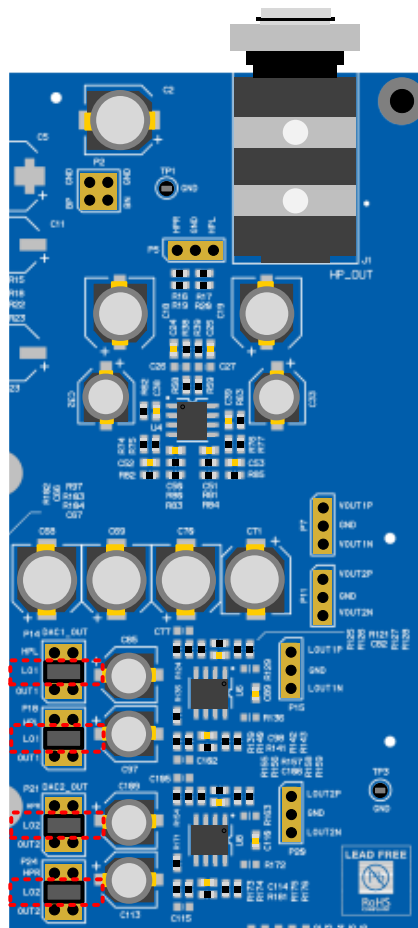

Figure 14: DAC Output to LOUT1/LOUT2
- LO1/2 – 5 V_{RMS} output on Dunglass OUT3 and OUT4, shown in Figure 14.